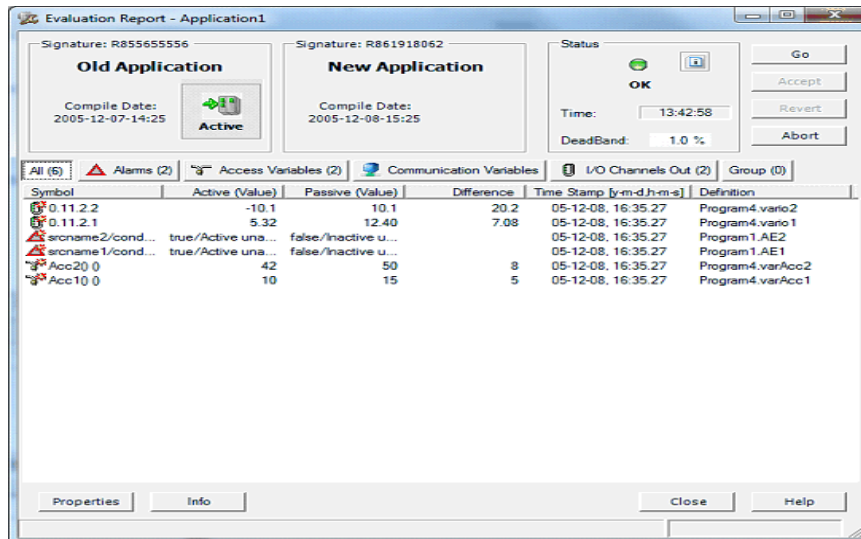

Figure 18. Evaluation Report
17. The Evaluation Report window is displayed when the download is complete. The different tabs in the Evaluation Report window (Figure 18) list variables whose values differ between the old and the new application version. Click **Help** for more information about the report and how it is configured.